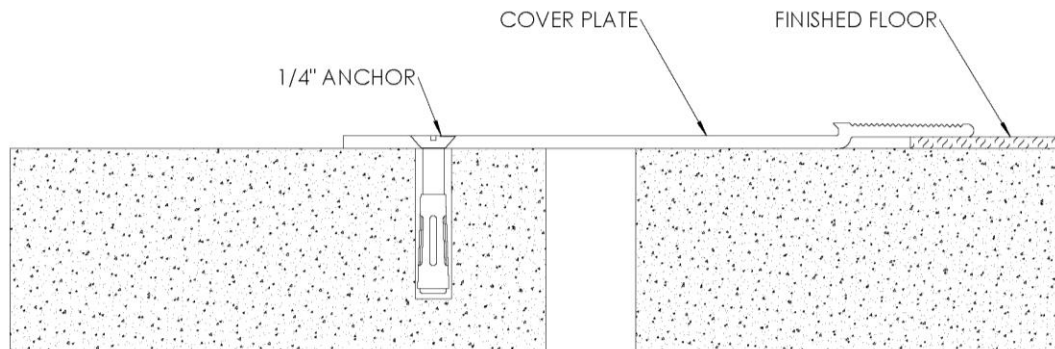

FIGURE 3
3. Position the cover plate into position and attach with the supplied 1/4" anchors through the previously drilled holes. The wing on the cover plate should overlap the finished floor on the non-anchored side by 5/8". **See Figure 3.**